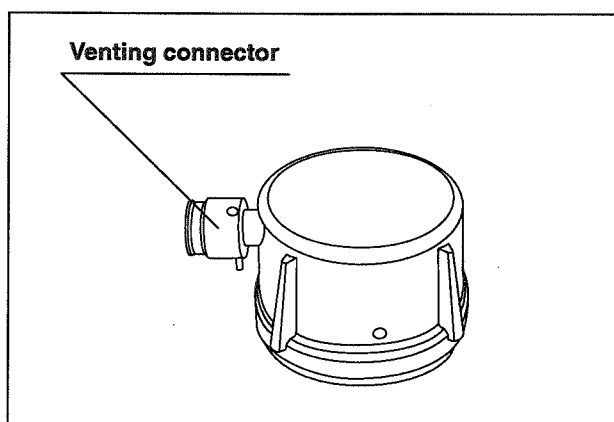

Figure 3.2
The water-resistant cap is attached to the electrical connector on the endoscope to protect the connector from water penetration during reprocessing. For leakage testing, the venting connector on the water-resistant cap has to be connected to the leakage tester (see Figure 3.2).
1. Confirm that the inside of the water-resistant cap is dry and free from debris (see Figure 3.2).